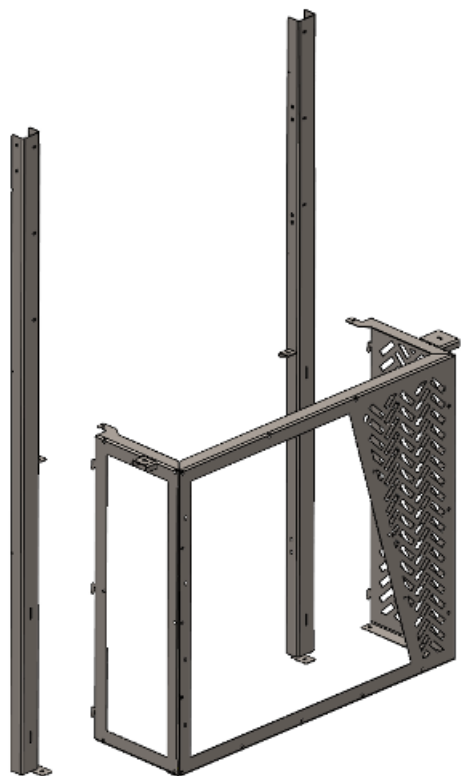

Figure 2
2. Thread on one (1) 3/8" stainless nut (50361-HW) onto each of the four (4) HD adjustable feet (61807). Then, put one (1) 3/8" flat washer (50408-HW) on each of the feet.
3. Thread one (1) foot into each of the weld nuts on the bottom of 23006 and 23007 corners and bottom of 23008 & 23009 uprights. Set at roughly the same height. These will be adjusted to final height in a later step.
4. Attach 23008 & 23009 uprights to assembly by hooking side panels into uprights. (Figure 2) (Ensure brackets on uprights face inward.) Insert two (2) $\frac{1}{4}$ " bolts with flat washers, lock washers, and nuts, into brackets on uprights to hold side panels on.